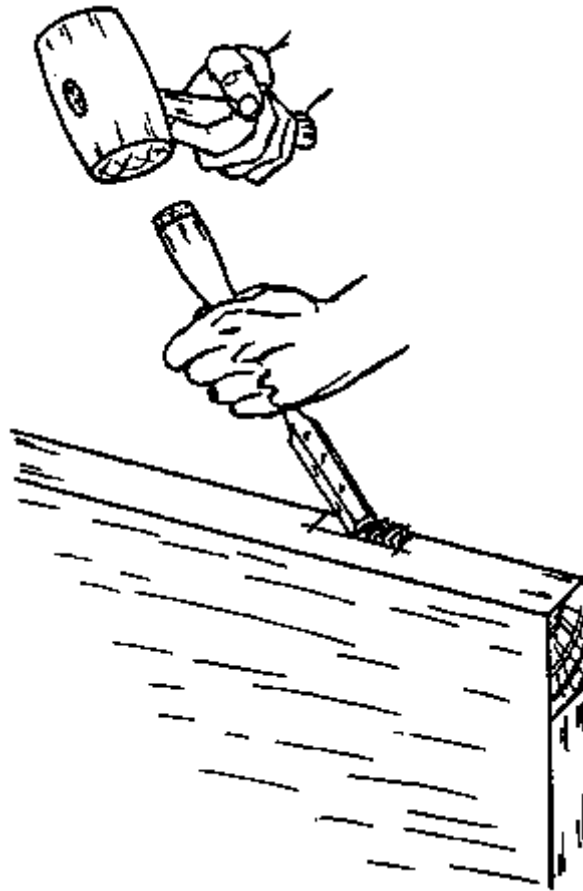

Fig. 4
f. Chisel the recesses for the hinges in the door, and fix each hinge with one screw (Fig. 4).